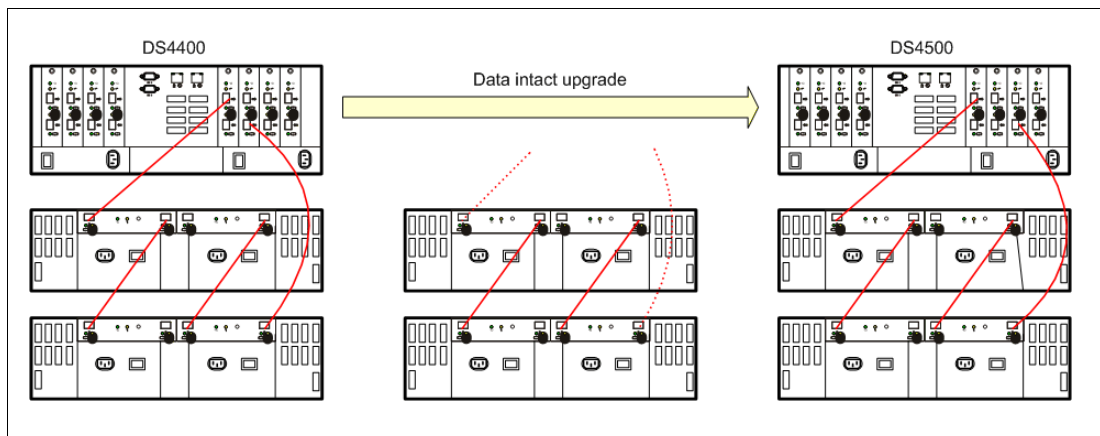
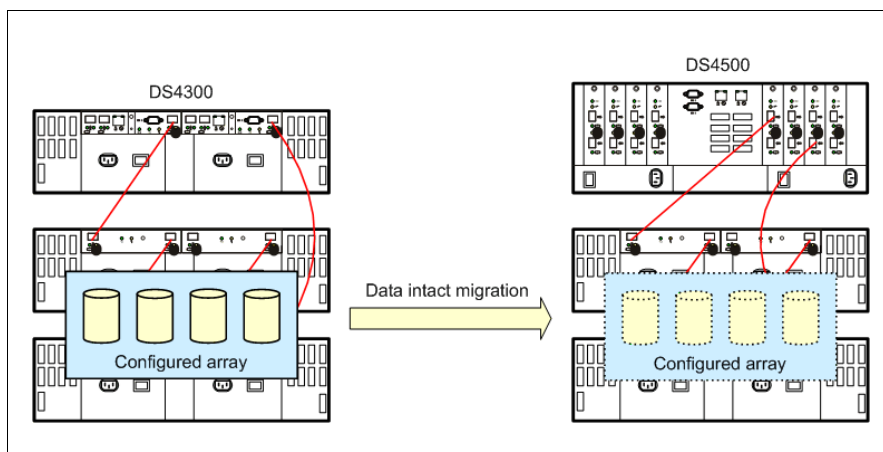

Figure 3-36 Upgrading DS4000 controllers
Figure 3-37 Relocating arrays
- ▶ Data intact upgrades and migrations: All DS4000 subsystem recognize configuration and data from other DS4000 subsystems so that migrations can be for the entire disk subsystem as shown in Figure 3-36, or for array-group physical relocation as illustrated in Figure 3-37.